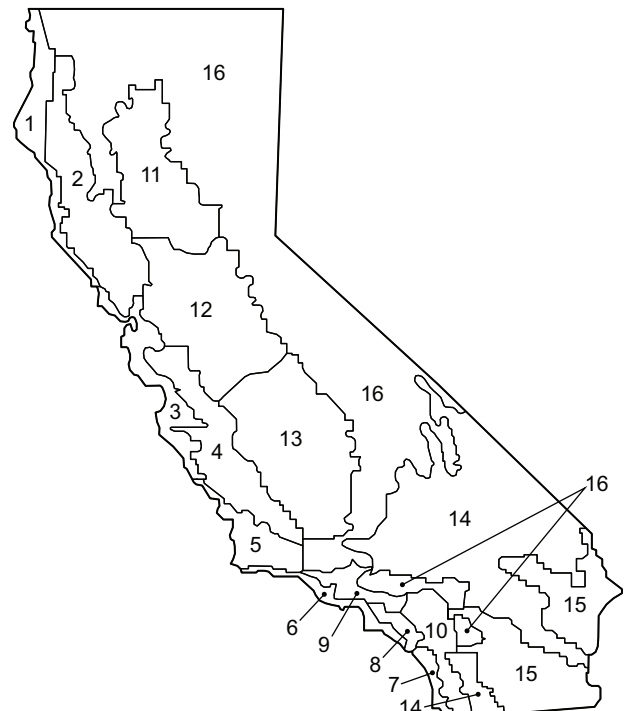

Fig. 90 – California Title 24 Zones
b. See Fig. 90 for map of California Title 24 zones.